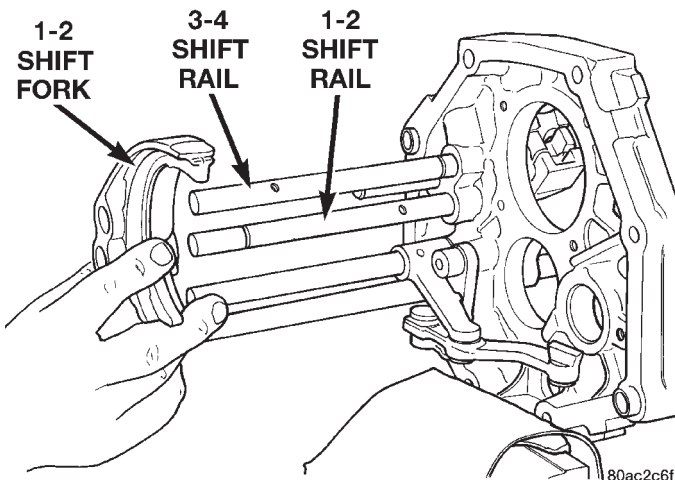

Fig. 85 Install 1-2 Shift Fork
(16) Install the shift rail detent springs in the intermediate plate. Note that the bottom detent spring is shorter than the others.
(17) Install the shift rail detent plugs in the intermediate plate.
(18) Install the 1-2 shift fork onto the 1-2 and 3-4 shift rails (Fig. 85).